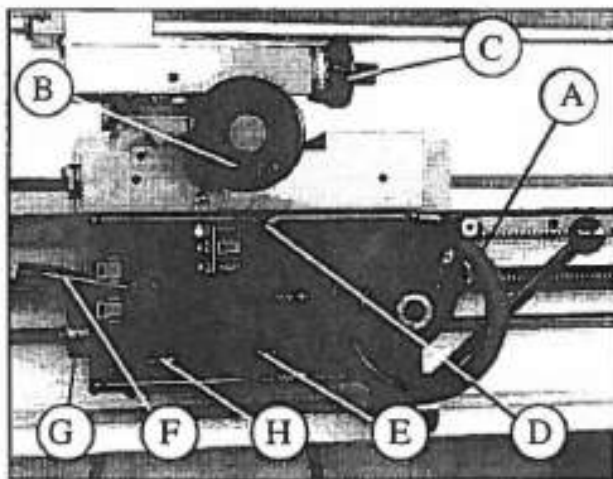

Fig. 13
Apron and slide controls (Fig. 13) in addition to the manual operation of the saddle by rotating apron handwheel (A), the cross-slide handwheel (B) and the topslide by handwheel (C) power feed is available to the saddle and cross-slide.
fixed stops. The loading at which the apron trips out has been pre-set during construction and should not be altered. It is permissible to reduce force if knocking off against a stop. To reset back to original setting engage feed lever (E) Fig. 13. With a screwdriver push in the adjuster rod against the light spring load and slowly turn clockwise until the dog is felt to engage the associate nut. Continue to turn until the required setting is reached.